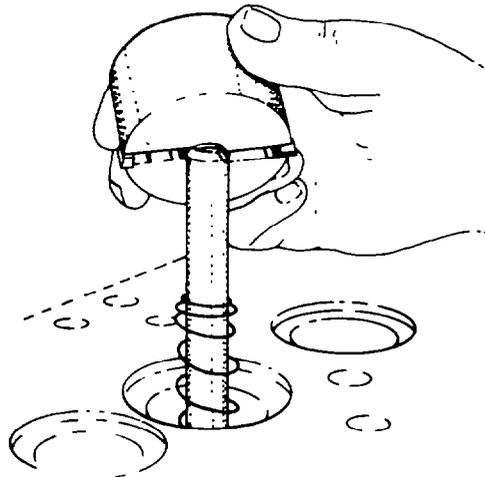

Fig. 30 — Installing Counterbore Cutter
3. Install the counterbore cutter over the sleeve (see fig. 30).